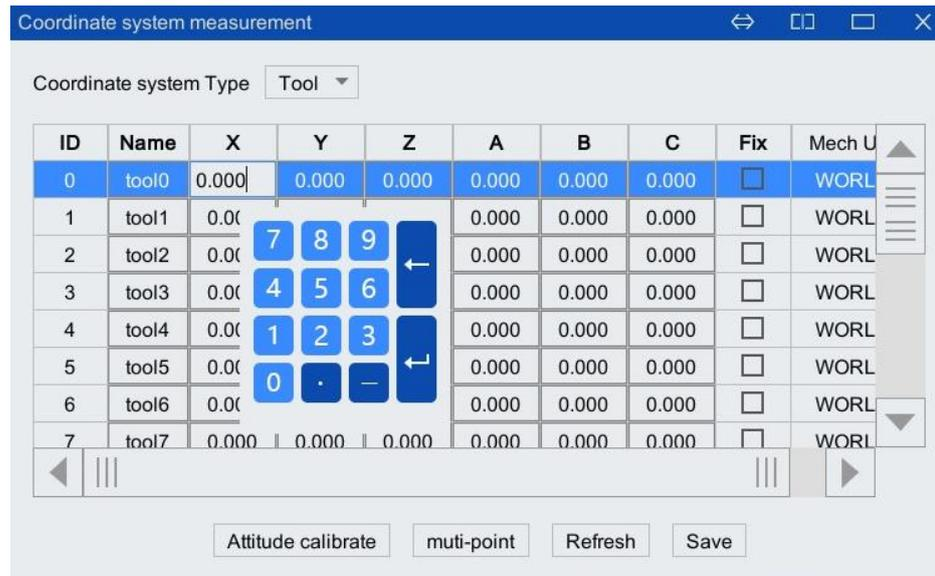

Figure 5-67 Input method setting workobject coordinate system page
Step4.Set the workobject coordinate system by input, refer to Figure 5-67. The table in the figure shows the position of the origin of each workobject coordinate system and the posture of the coordinate system.